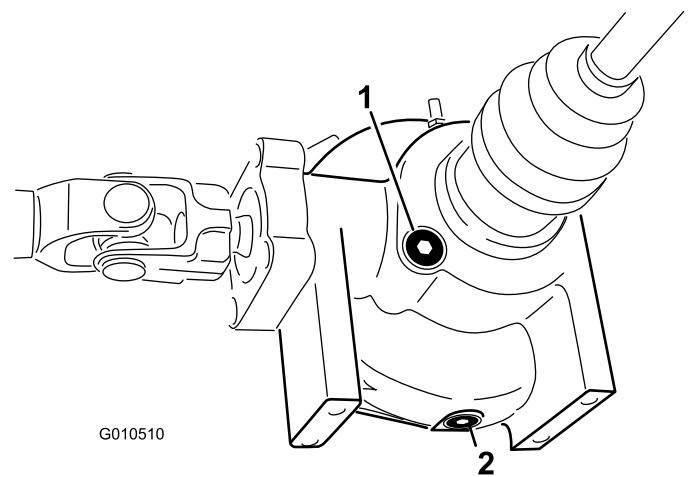

Figure 49
2. Clean the area around the drain plug on the side of the differential (Figure 49). Place a drain pan under the drain plug.